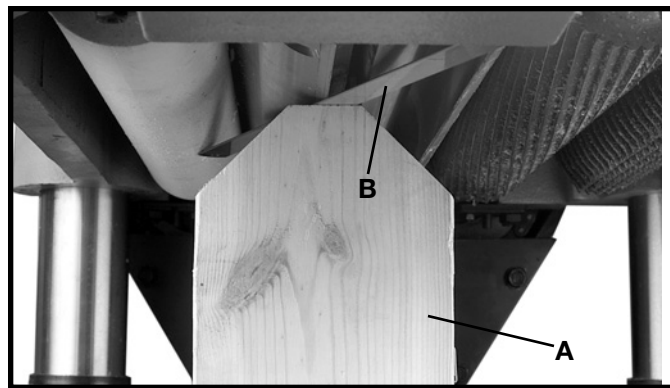

Fig. 42
2. Place the gage block (A) Fig. 42, on the table directly underneath the cutterhead, as shown. Using a 0.040" feeler gage (B) placed on top of the gage block, raise or lower the head assembly until one of the knives just touches the feeler gage when the knife is at its lowest point. Then tighten the head locking knobs.